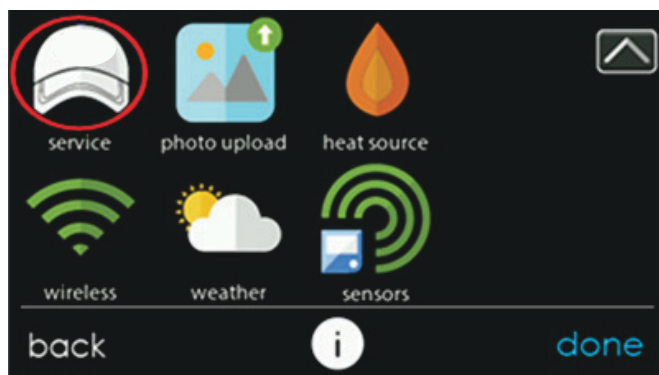
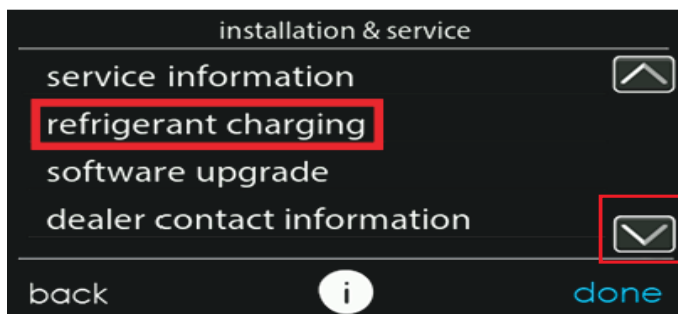
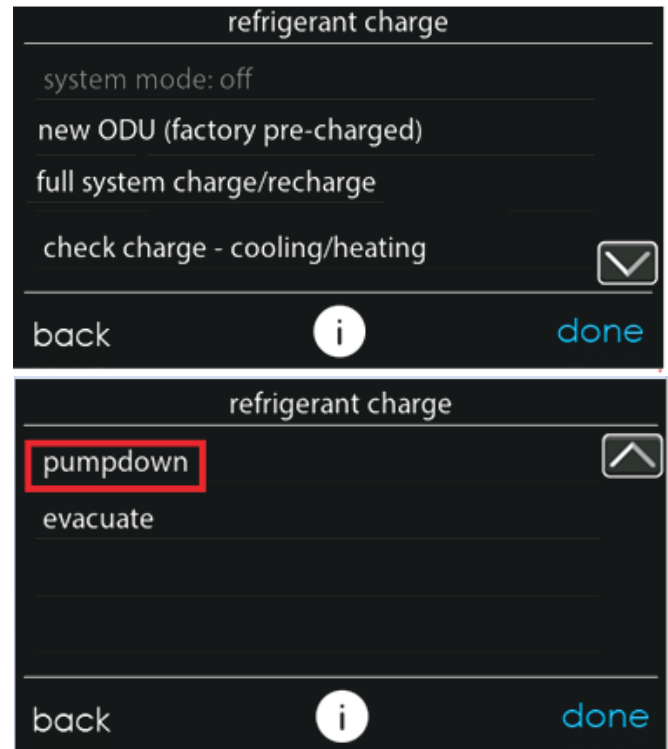

Fig. 13 – Entering Installation and Service Menu
Fig. 14 – Installation and Service Menu
Fig. 25 – Pump Down and Evacuation Selection
5. Navigate to the “Installation and Service menu” by performing a long press on the service icon from the main screen (see Fig. 13). Once in the “Installation and Service” menu, select “Refrigerant Charging” (see Fig. 14).
2. In the “installation and service” menu of the Evolution™ Connex™ System Control (see Fig. 13), go to “refrigerant charging” and then “pump down” (see Fig. 14 and Fig. 25).